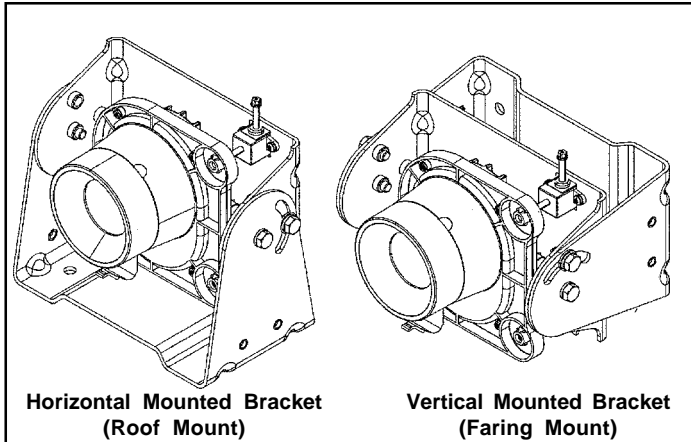

Figure 11 IR Camera Mounting Configurations
3. Depending on the cab style, choose whether the bracket should be installed to the vehicle roof or faring area. Refer to Figure 11.